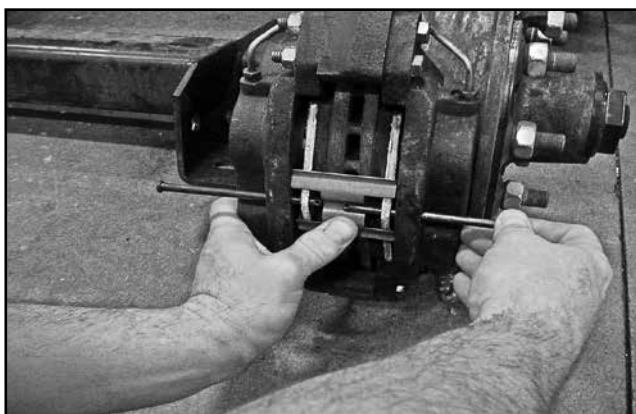

Figure 1
4. Align the brake pad mounting holes with the holes in the caliper. Insert one of two brake pad retaining pins into each caliper half as shown below in **Figure 1**. Place the anti-rattle spring against the brake pads and press the center toward the rotor while you slide the outboard pad retaining pin toward the inner lining. Continue sliding the pad retainer pin until it engages both pads and pushes the second pin out of the inboard caliper half. Install cotter ring.
6. Reassemble the brake pads into the disc brake. Make sure to locate the brake lining side of the pads toward the rotor surface, and the steel side of the pads toward the calipers. Align the brake pad mounting holes with the holes in the caliper. Insert one of two brake pad retaining pins into each caliper half as shown previously in **Figure 1**. Place the anti-rattle spring against the brake pads and press the center toward the rotor while you slide the outboard pad retaining pin toward the inner lining. Continue sliding the pad retainer pin until it engages both pads and pushes the second pin out of the inboard caliper half. Install cotter ring.